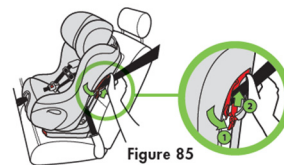

Figure 85
- Open the Forward-Facing Belt Lock-off on the same side of the seat as the vehicle shoulder belt anchor point. Place the vehicle shoulder belt through the Forward-Facing Belt Lock-off as shown in Figure 85.